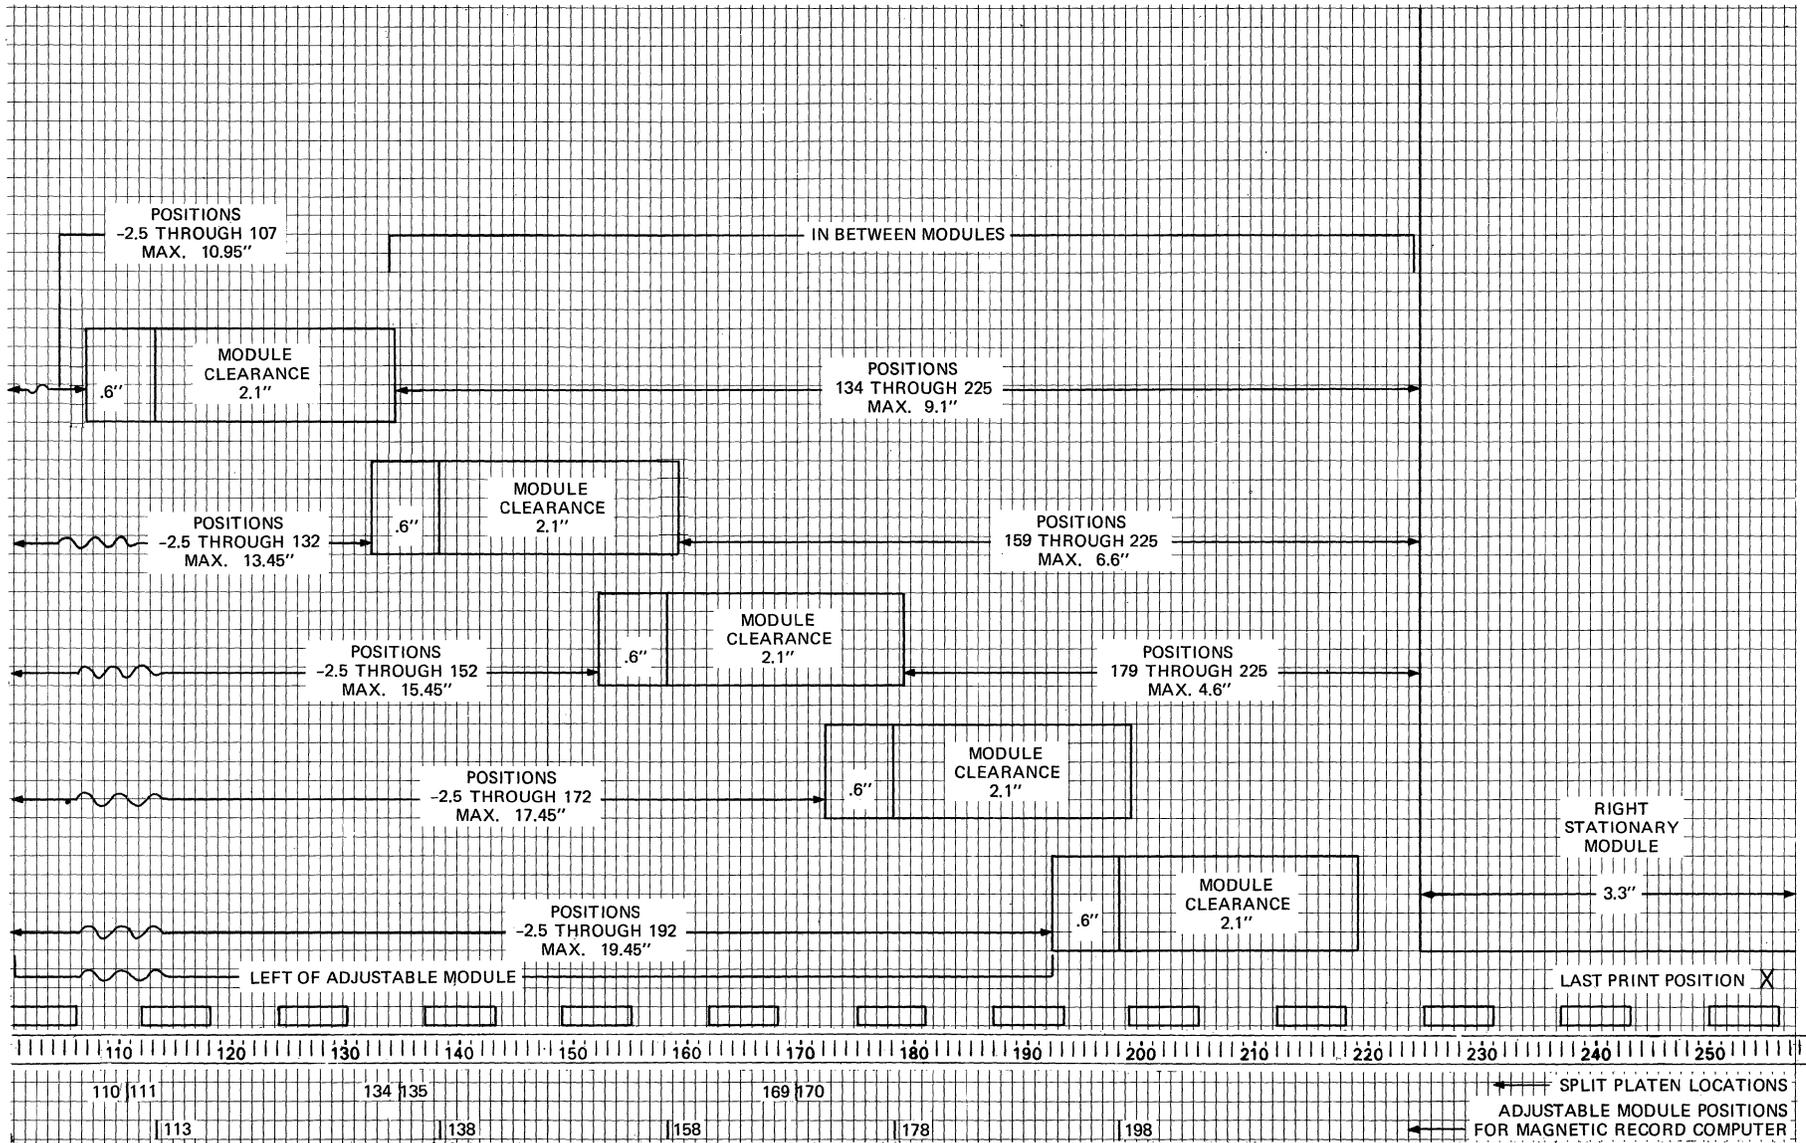

Figure 6.14.02-1 Front Feed Forms Area to Left of Adjustable Module or In Between Modules, MUR Front Feed Forms Handler
4. For a manually aligned front feed form which utilizes both of the above areas, the forms area is from minus 2.5 tenths to 258, maximum 26.05" width. See Topic 6.14.07 if the form will occupy an area in front of a nonretracted module, because the print line may be a maximum of 1½" or a maximum of 2". The locations of the rear guides is subject to the minimum module clearance as indicated in the following Figures 6.14.02-1 through -3.
#### **Explanation of Figure 6.14.02-1**